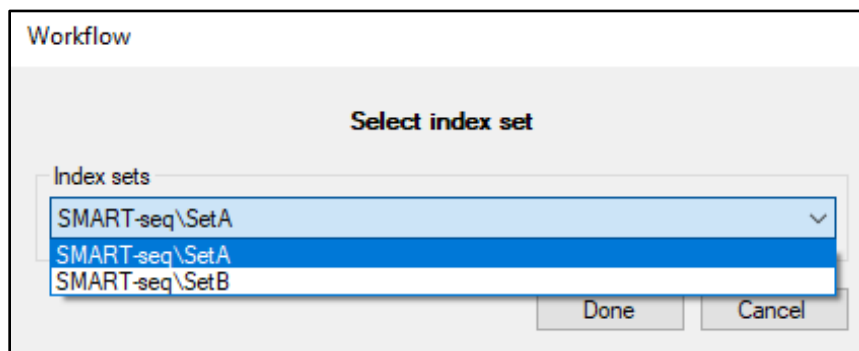

Figure 69. Example of multiple index set options for a primer dispense.
3. If using indexes, it will prompt you for which index set you will be using. Figure 69 shows the options for SMART-Seq application. Click [Done] once selected from the drop-down box.